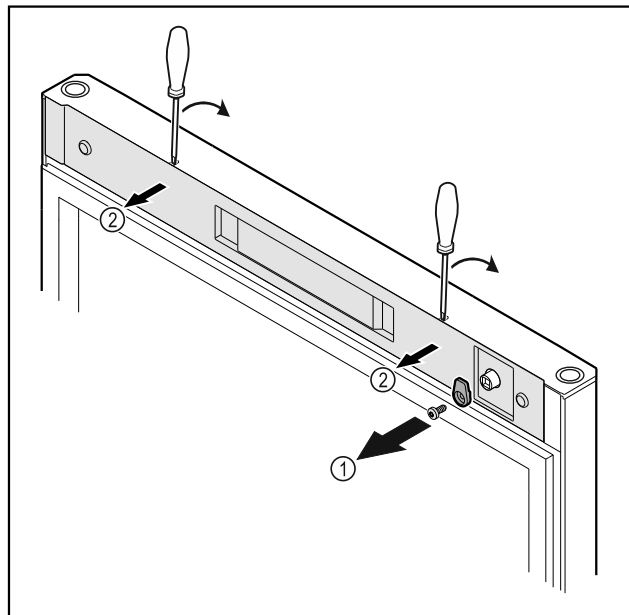

Fig. 22
- ▶ Unscrew the door latch Fig. 22 (1).
- ▶ Unlatch the cover Fig. 22 (2) with a small screwdriver and remove it.